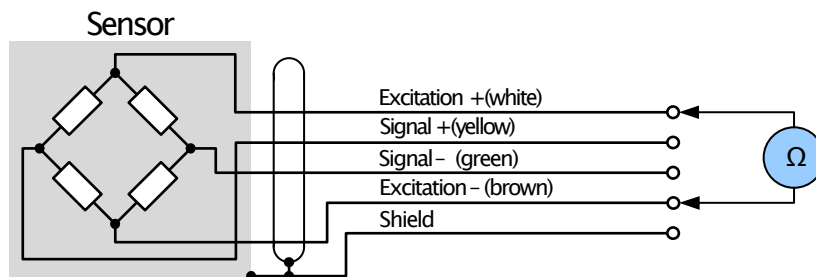

Fig. 10. Sensor resistance test
5. **Sensor resistance test**. If the sensor voltage excitation without sensor (test 3) is OK and the voltage with sensor is smaller, the sensor is probably damaged. Measure the resistant of the sensor according to figure 10. The right value is in the datasheet of the sensor, usually between $370 \text{ } \Omega$ and $400 \text{ } \Omega$.